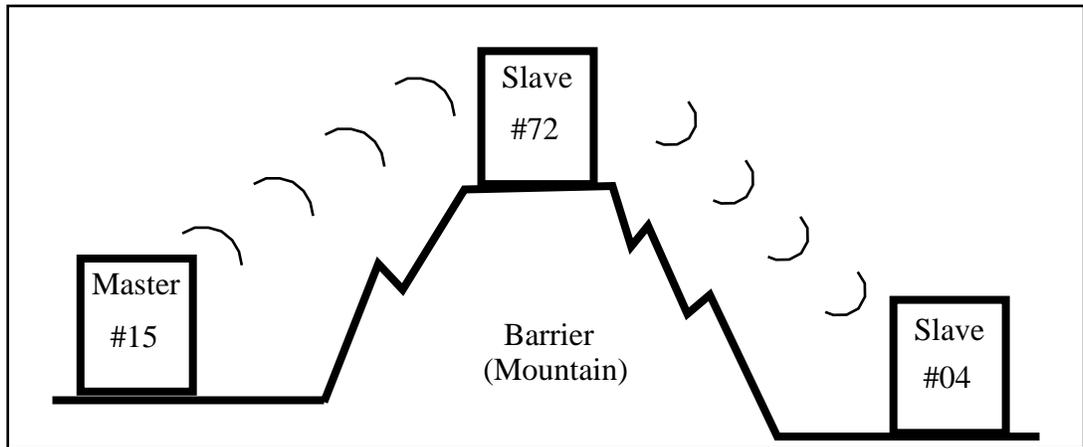

Figure 18-2 RNIM Repeater Example
Figure 18-2 displays an RNIM Master (15) on one side of a mountain, a Slave (04) on the other side of the mountain, and a Slave (72) at the top that can communicate with the other two. If a source on the Master's network (16) wants to send a READ to a PLC (87) on the Slave's network on the other side of the mountain, the route would be: 16, 15, 172, 4, 87.